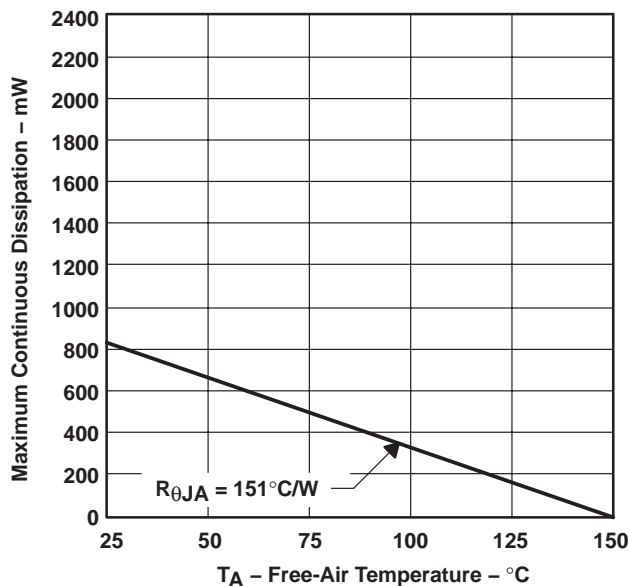

Figure 1
2. Refer to Figures 1 and 2 to avoid exceeding the design maximum virtual junction temperature; these ratings should not be exceeded. Due to variation in individual device electrical characteristics and thermal resistance, the built-in thermal overload protection may be activated at power levels slightly above or below the rated dissipation.